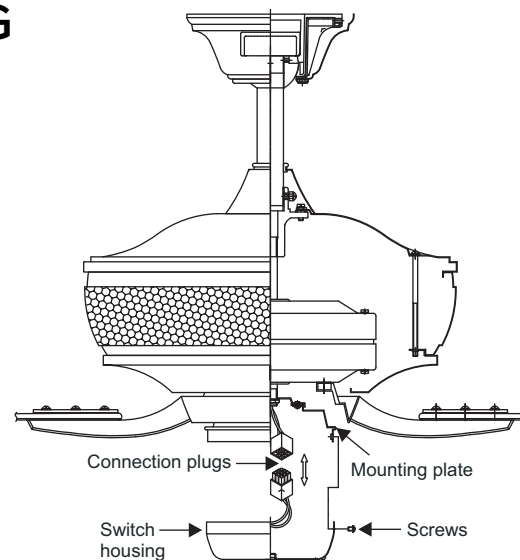

Fig. 18
Step 2. Raise and hold the switch housing close to the mounting plate. Push the nine pin square wire connectors together. One from the fan and one from the switch housing. (Fig. 18)
Step 3. Tuck the connections neatly into the switch housing and switch housing to the ceiling fan. Place the key hole slots on the top edge of the switch housing over the mounting screw heads on the mounting plate. Turn the switch housing until the screw heads are at the narrow end of the key hole slots. (Fig.18) Tighten all of the screws.